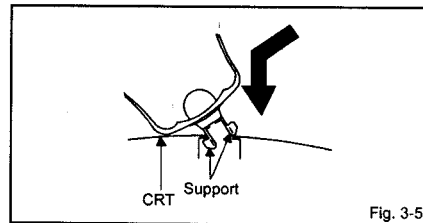

Fig. 3-5
- Insert one end of the Anode Support into the anode button, then the other as shown in Fig. 3-5.